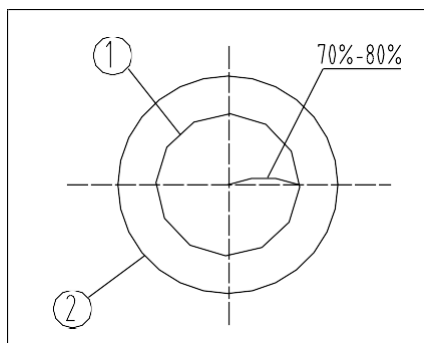

Fig. 21
(1) The aperture diaphragm decides the numerical aperture of the illumination system. Only when the N.A. of illumination system is matching with the N.A. of the objective, it can obtain better resolution and contrast, and also increase the depth of field.
(2) As the contrast is usually low, rotate the diaphragm adjust ring ③ to make the arrowhead pointed to the related magnification position on condenser base ④, namely, to adjust the condenser aperture diaphragm to be 70%-80% of the N.A. of objective. The eyepiece can be taken off when it's necessary to observe from the tube. Adjust the ring ③ until see the figure as shown in Fig. 21, to adjust the proportion (see Fig. 21&22, ① is the image of aperture diaphragm, ② is the edge of objective).